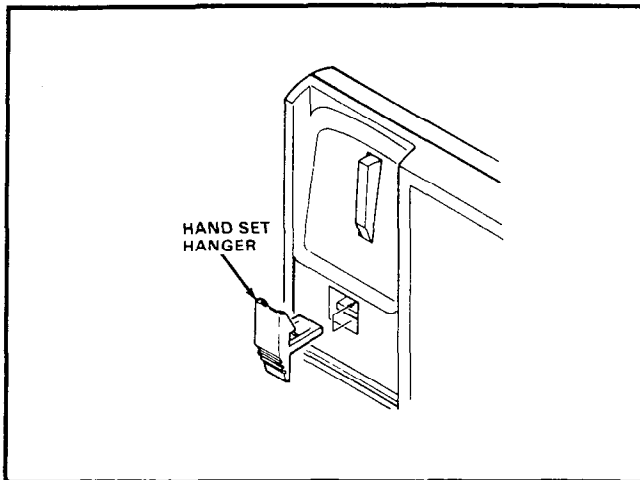

FIGURE 29—HANDSET HANGER
07.18 Remove the handset hanger and insert it in the upper hole as shown in Figure 29. Note that the hanger fits in the notch in the handset.